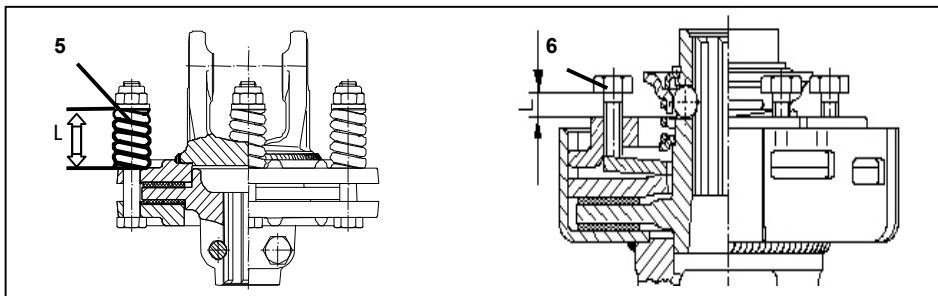

Fig. 3
- Measure dimension "L" on the pressure spring (Fig. 3/5) or on the setscrew (Fig. 3/6).